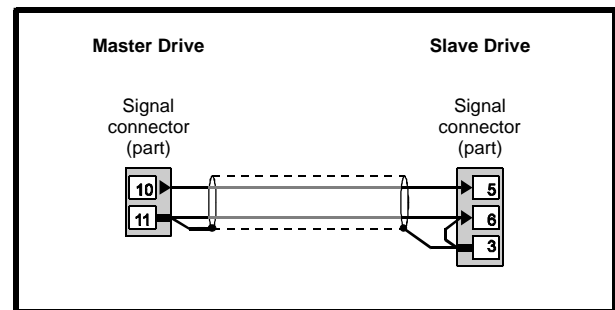

Figure 3–12 Torque slaving connections
- Make connections between the Drives as shown in Figure 3–12.